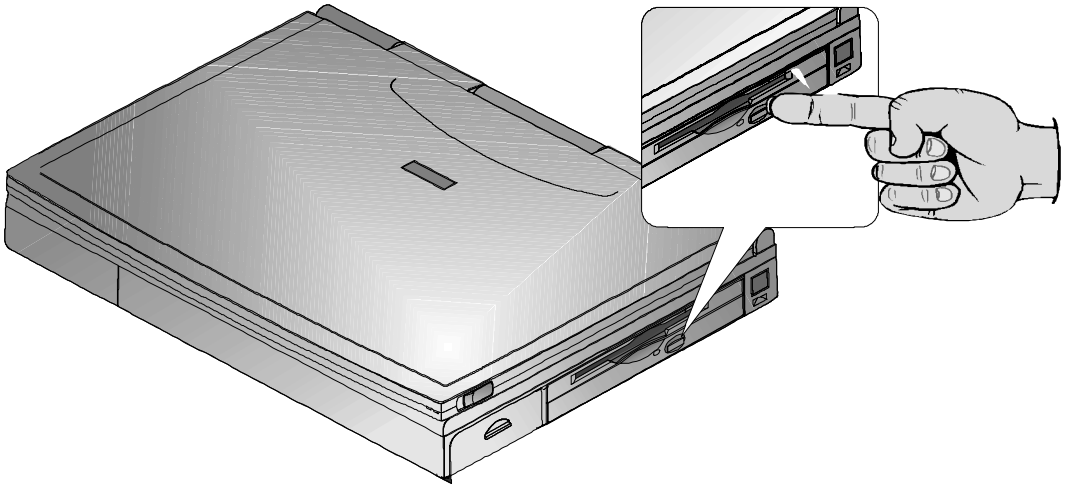
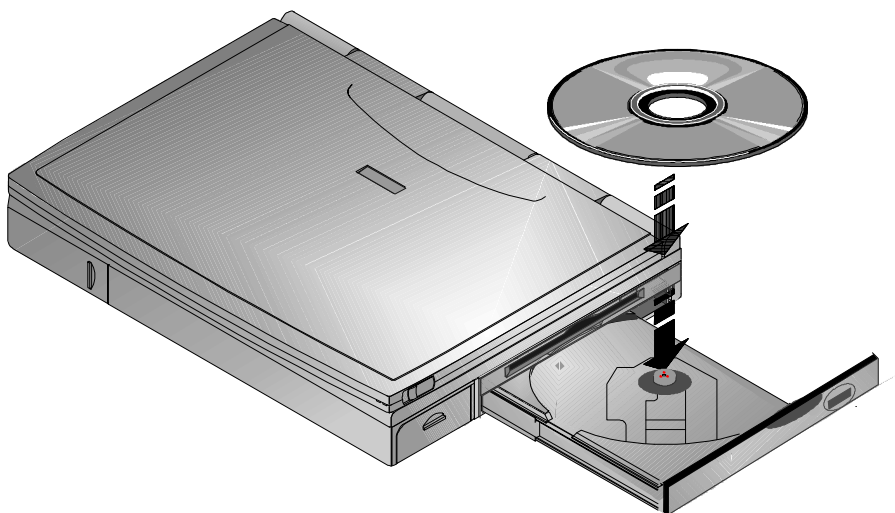

Figure 6-5: Ejecting the CD-ROM tray
Figure 6-6: Loading a CD into the Combination Module
To load a disk into the CD-ROM/FDD Combination module, please refer to figure 6-5, figure 6-6 and the following instructions.
1. Press the eject button. The motorized tray ejects from the drive. (Figure 6-5)
2. Place the disc into the tray with the CD's label facing up. (Figure 6-6)